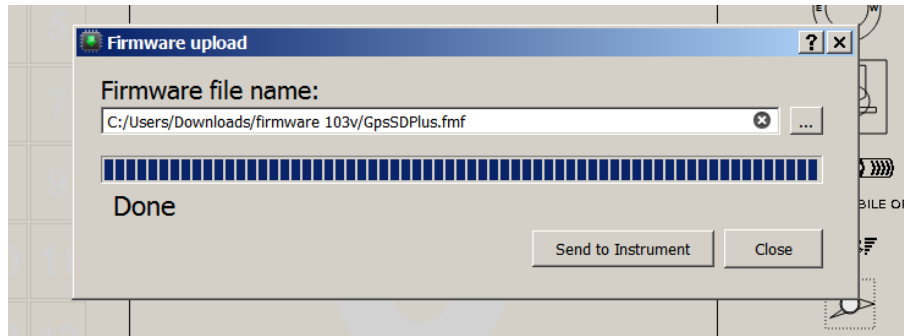

Figure 9.2: Firmware Update Done
6. When the process is finish the application shows a message saying *complete* (see Figure 9.2). Disconnect the USB cable and the GPS SD+ will start to work.